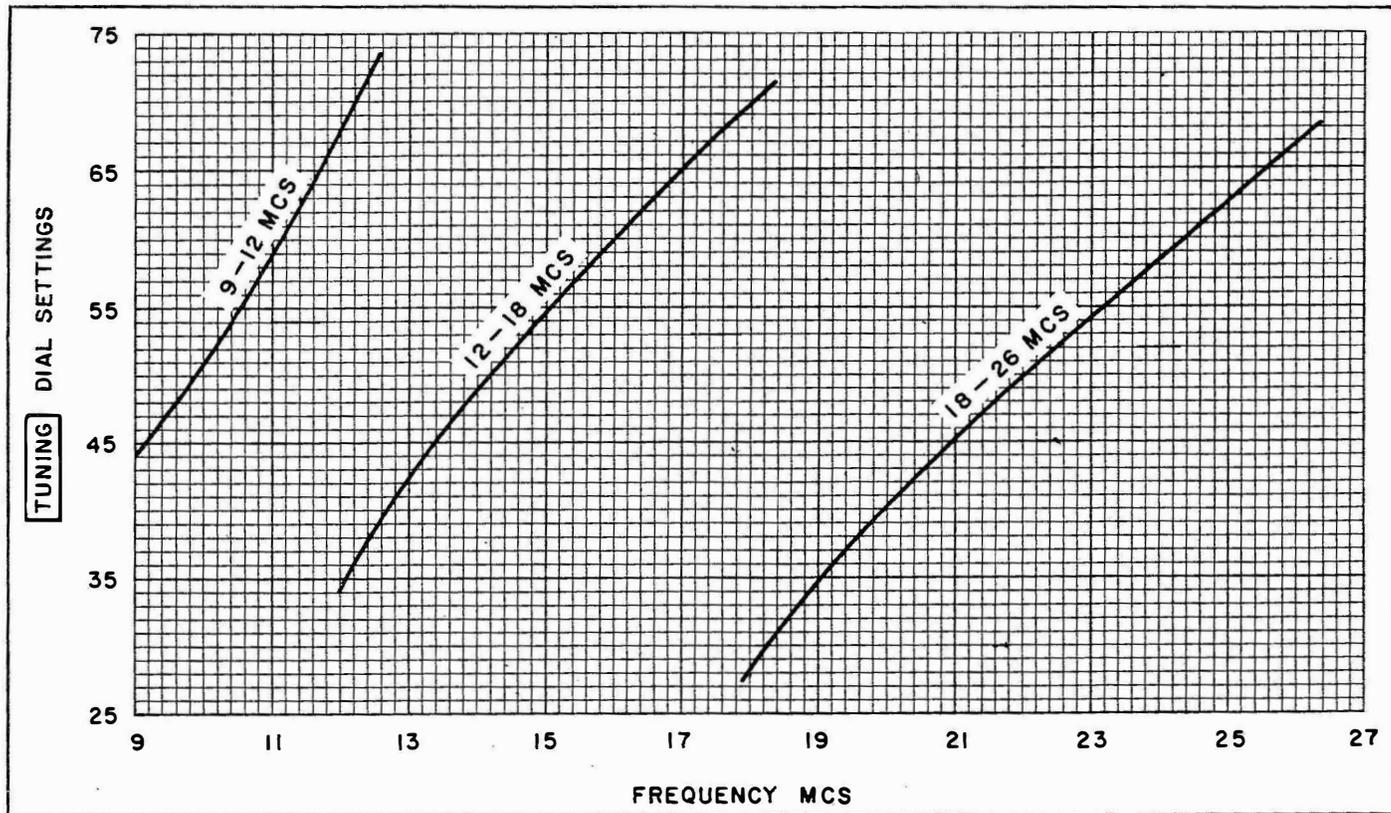
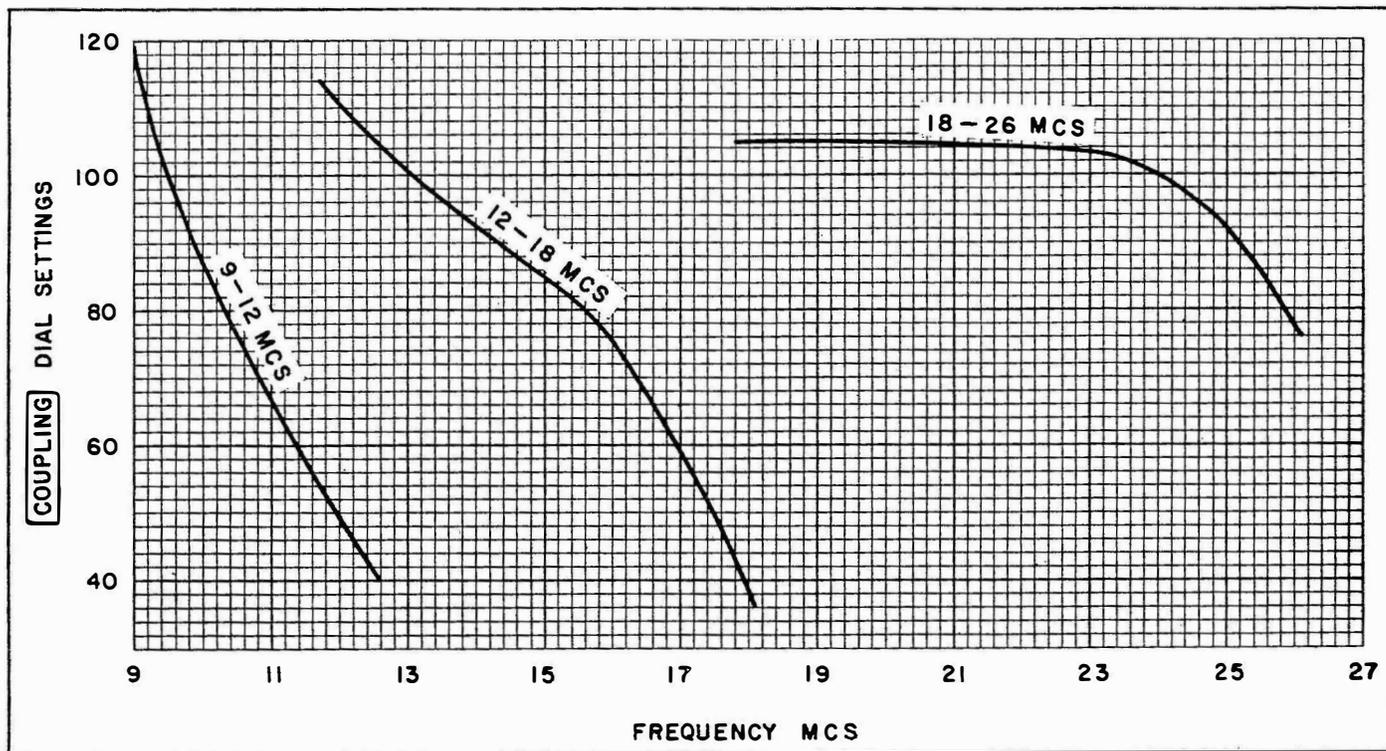

Figure 3-3. Antenna Coupler Group AN/SRA-16;
Figure 3-4. Antenna Coupler Group AN/SRA-16;
i. CALIBRATION.—Typical calibration curves are shown in figure 3-3 for COUPLING control settings and figure 3-4 for TUNING control settings. These calibration curves show typical control settings for a frequency range of 9—26 megacycles and an antenna system impedance of 50 ohms \pm J₀. Each coupler unit should be adjusted under actual operation conditions at time of installation, as described in Section 3, paragraph 5.
(d) Adjust the TUNING control on each antenna coupler so that the associated mechanical counter is set in accordance with the typical calibration curves shown in figure 3-3 for the desired operating frequency.
(e) Adjust the COUPLING control on each antenna coupler so that the associated mechanical counter is set in accordance with the settings indicated in figure 3-4 for the desired operating frequency. Place the bandswitch on the correct band position for the frequency used.